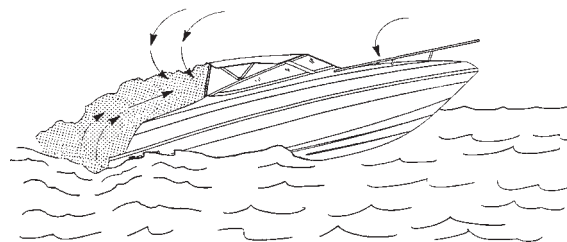

Figure B9: Inefficient trim angles.
1. Intentional or unintentional excessive trim angle causing high bow angle. See Figure B9.